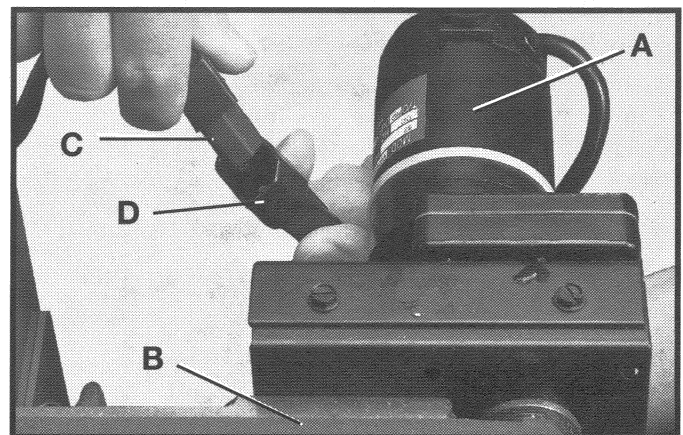

Fig. 10
⚠ WARNING: The table feed motor (A) Fig. 10 is located on the side of the feed table (B). Before connecting the feed motor to the feed-speed switch disconnect machine from power source.
1. Insert the feed/speed switch assembly connector (C) Fig. 10 into the motor connector (D). Connector is polarized and will fit only one way. **NOTE: To avoid damage DO NOT** connect the motor to any other power source.